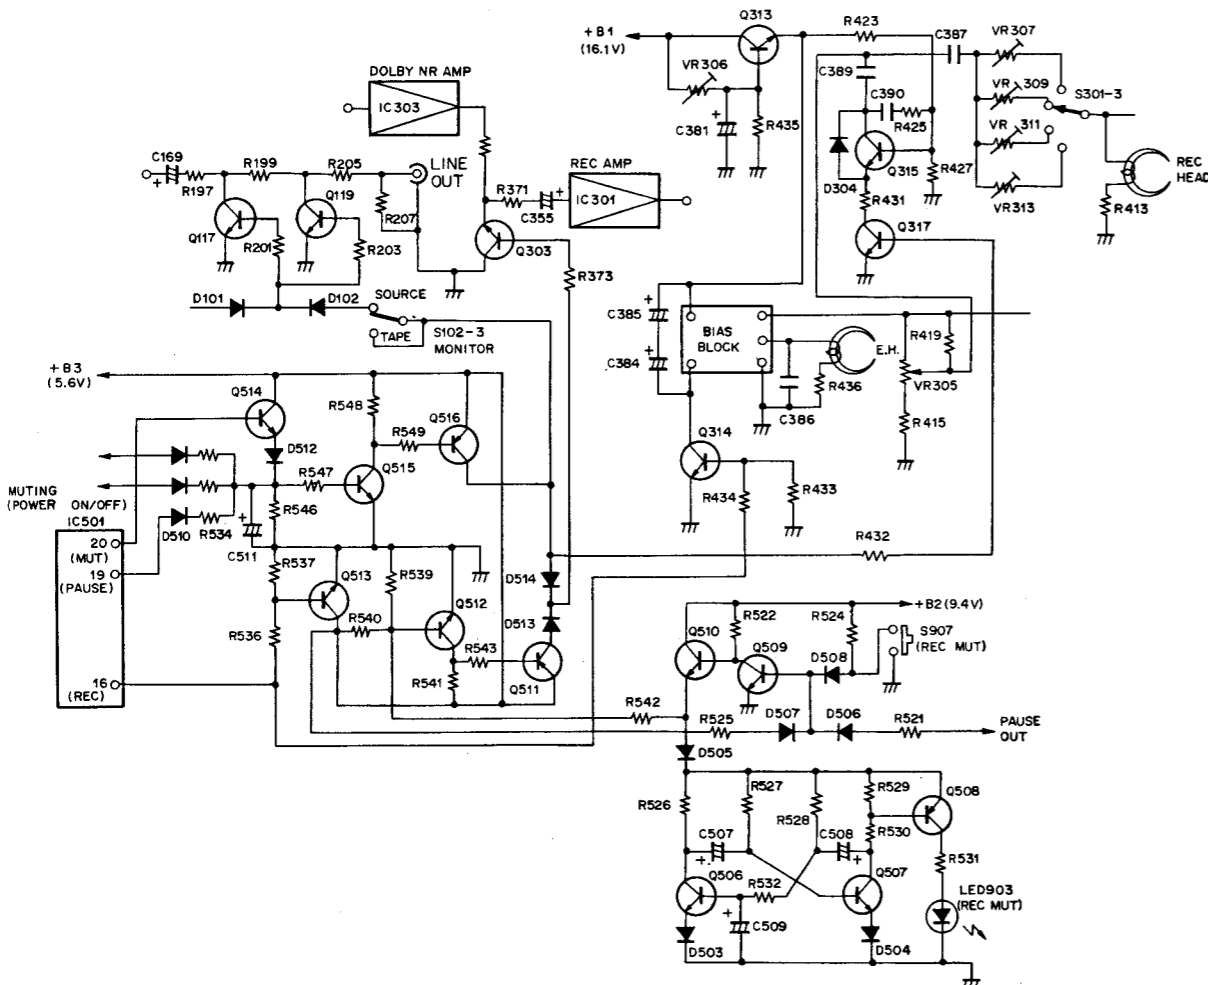

Fig. 6-11 Muting circuit 2
#### Muting During FF, REW And STOP Operations (Fig. 6-11)
#### Muting When Switching From STOP To PLAY or PLAY/REC (Fig. 6-11)
**Bias Muting Circuit (Fig. 6-11)**
**REC MUTE Operation (Fig. 6-11)**